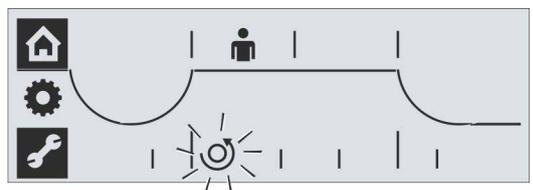

Fig. 2: End position menu is active, ccw closing direction
- the symbol of the currently set closing direction is blinking (fig. 2).